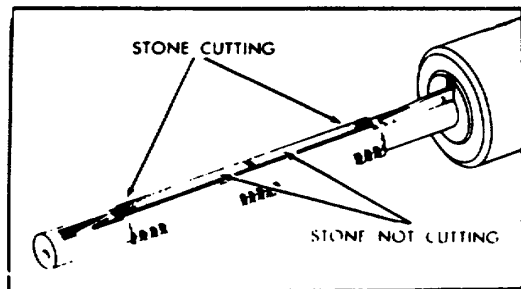

FIGURE 37
- (3) Use the truing sleeve sparingly. Excessive use of the truing sleeve causes undue wear. After a few reversals of the sleeve, stop the machine and visually inspect the mandrels and stones. High spots on the stone will be "loaded" (Figure 37). Use an abrasive dressing stick to remove high spots. High spots on guide shoes will be bright and shiny. A few light strokes with a file will true most guide shoes. Truing sleeve thus is used as a straightedge and will last longer. Truing time is reduced. Truing sleeve should be as near as possible to size of hole to be honed, so that curvature of shoes fits the curvature of the hole.